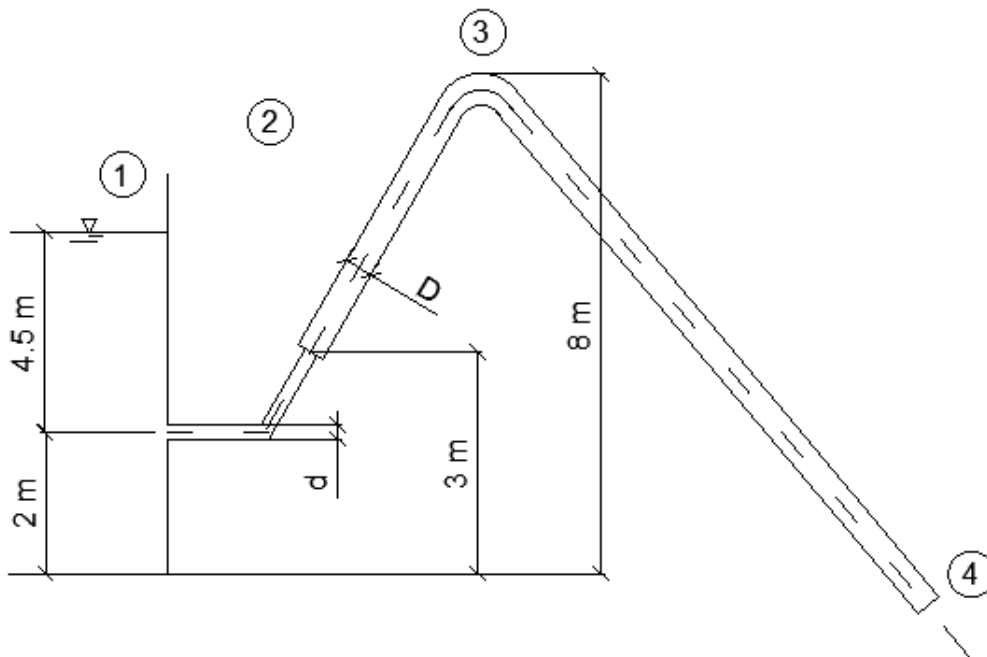

Figure 5
3. (a). Water is siphoned from a reservoir as shown in **Figure 5** with the water level of 6.5 m. The siphon consists of two pipes; $d = 12$ cm and $D = 18$ cm, calculate: